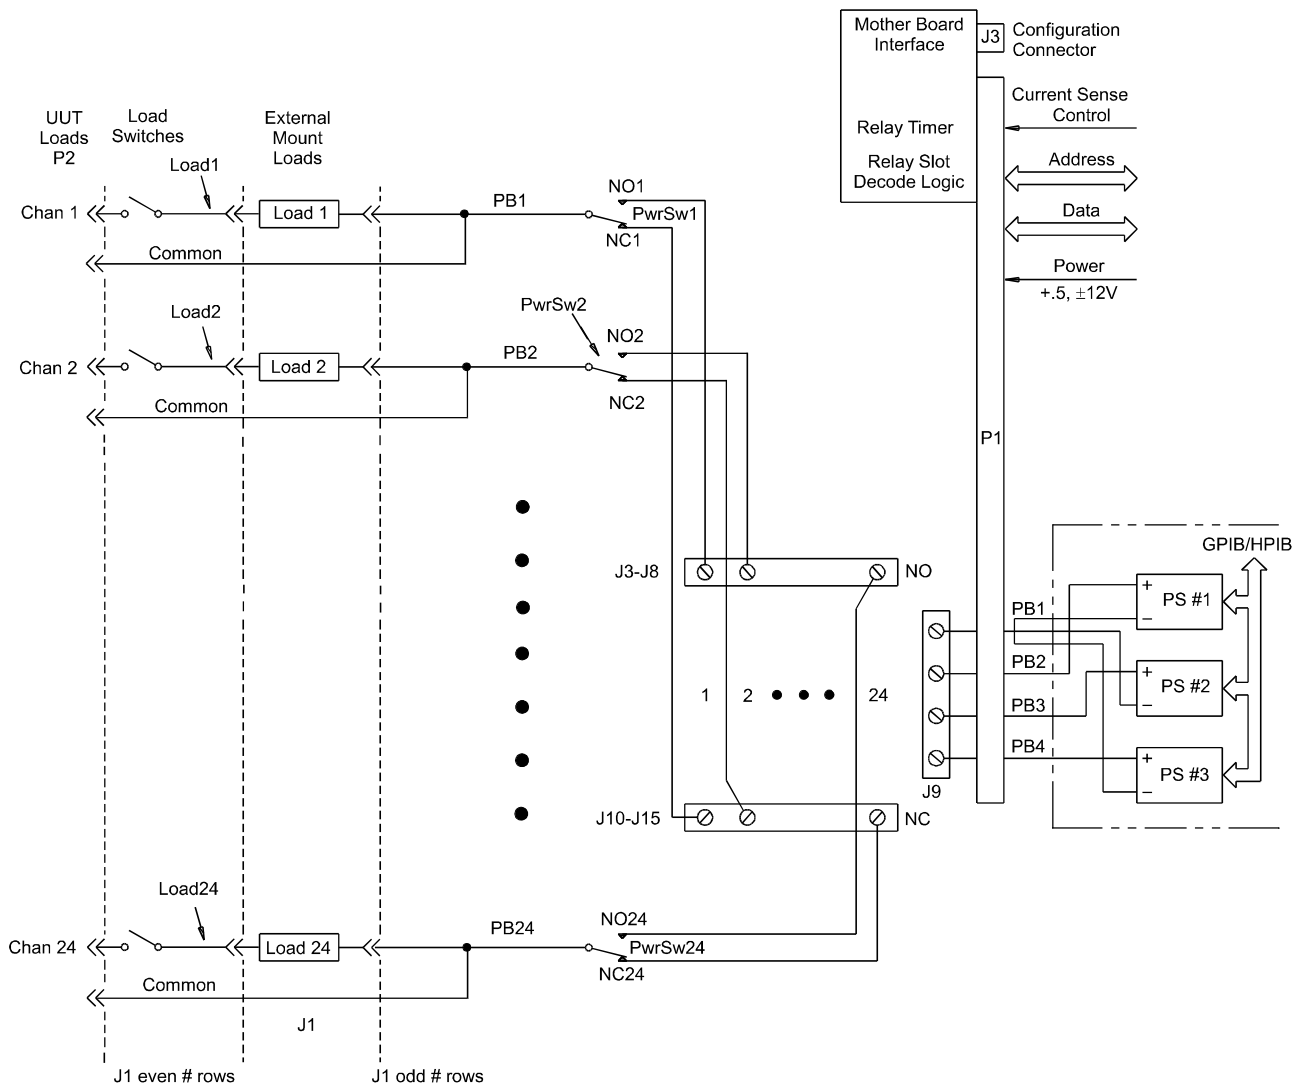

Figure 3-29. HP E6177A 24-Channel Medium-Current Load Card Block Diagram
Figure 3-29 shows a block diagram of the HP E6177A 24-Channel Medium-Current Load Card. The 24-Channel Load Card differs from the 8-Channel and 16-Channel cards in three ways:
The Common line (PwrX where X is the channel number) on the input is brought back out to the input, allowing each channel to operate in a general-purpose (GP) configuration. This would allow you, for example, to switch in a special external power supply while bypassing the power bus of the Switch/Load Unit. See Figure 3-29.
Each channel connects to the power bus via a Form C SPDT (single-pole, double-throw) relay. This relay has a NO (normally-open) and a NC (normally-closed) terminal. Each NO terminal is connected to a pin on J3–J8, and each NC terminal is connected to a pin on J10–J15. Each pin on J3–J15 can be connected to any of the four power busses on J9 via jumper wires. See Figure 3-29. The terminal block jumpering allows convenient pull-up or pull-down of the various inputs. It also allows for terminating a UUT load at a different voltage than ground.